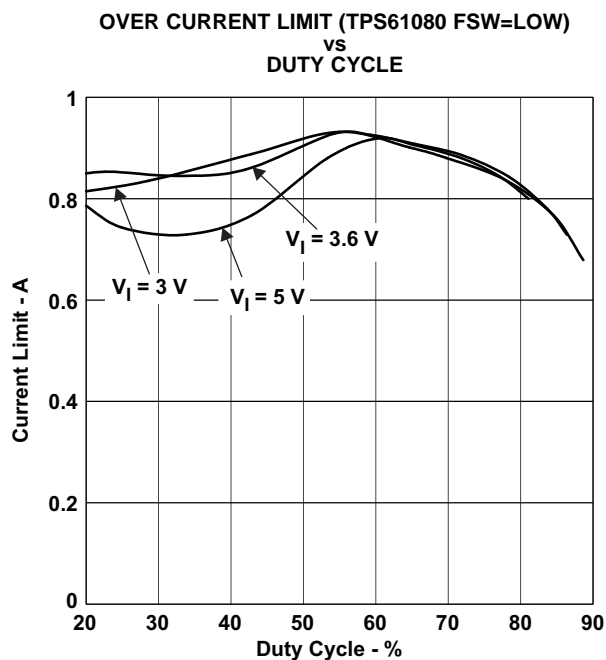
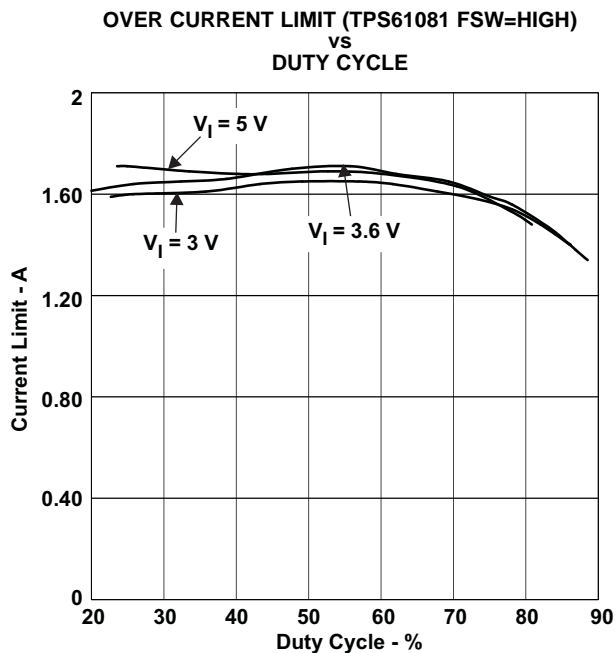

Figure 6.
Figure 9.
(1) VIN = 3.6 V, Vout = 15 V, Duty cycle = 76%. See Figure 6 to Figure 9 for other operation conditions.
(2) OUT short circuit condition is detected if OUT stays lower than VIN – Vsc for 2 ms after IC enables.
To minimize the variation in the overcurrent limit threshold, the TPS61080/1 uses the VIN and OUT pin voltage to compensate for the variation caused by the slope compensation. However, the threshold still has some dependency on the VIN and OUT voltage. Use Figure 6 to Figure 9 to identify the typical over-current limit in your application, and use 25% tolerance to account for temperature dependency and process variations.